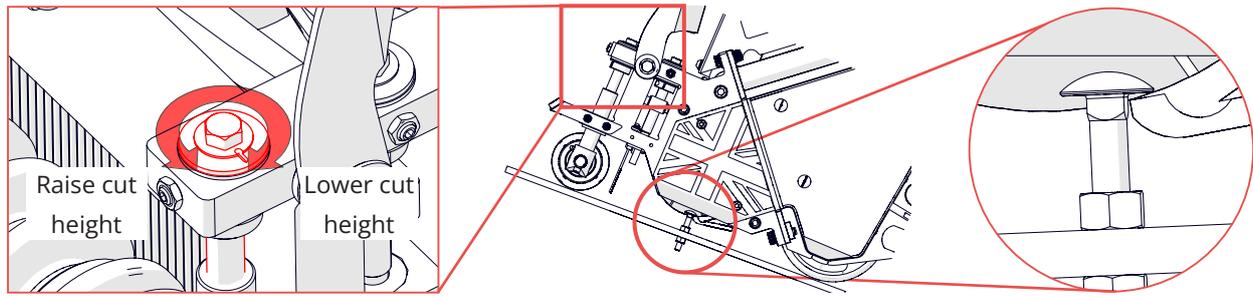

Fig. 6C - Rotate the toothed gear while offering up the setting bar. Stop when the head rests level/within the shear blade
- With the setting bar still in position, locate the cut height adjuster on the same side as being adjusted. Rotate the height adjuster to raise or lower the front roller [15 mm spanner]. Stop adjusting when the head rests within the lip of the shear blade (Fig. 6C).